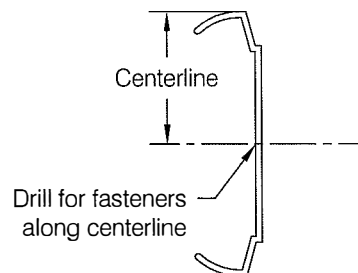

fig 2
- Step 3:** Pre-drill clearance holes in aluminum retainer along the centerline of the retainer using a #15 (.180") bit for #8 fastener or a #7 (.201") bit for #10 and 3/16" fasteners, see **fig 2**. Space holes at 32" on center. Adjust spacing to accommodate studs as necessary. Do not pre-drill at locations that will interfere with installation of molded accessories.